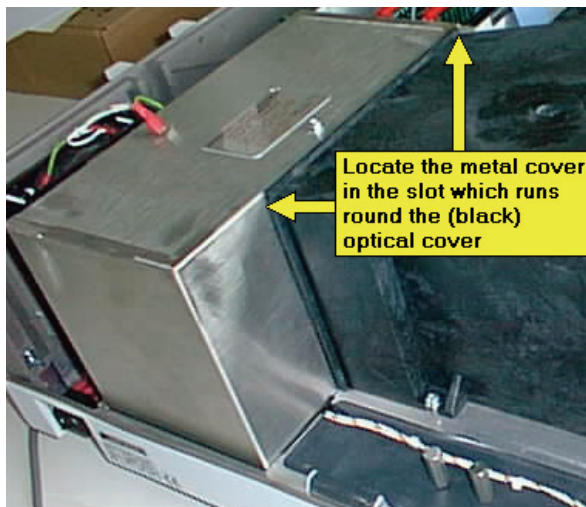

Figure 130 Replacing the cover
14. Locate the metal cover into the slot around the optical cover, and gently lower the metal cover taking care that no cables are trapped underneath, as shown in Figure 130.